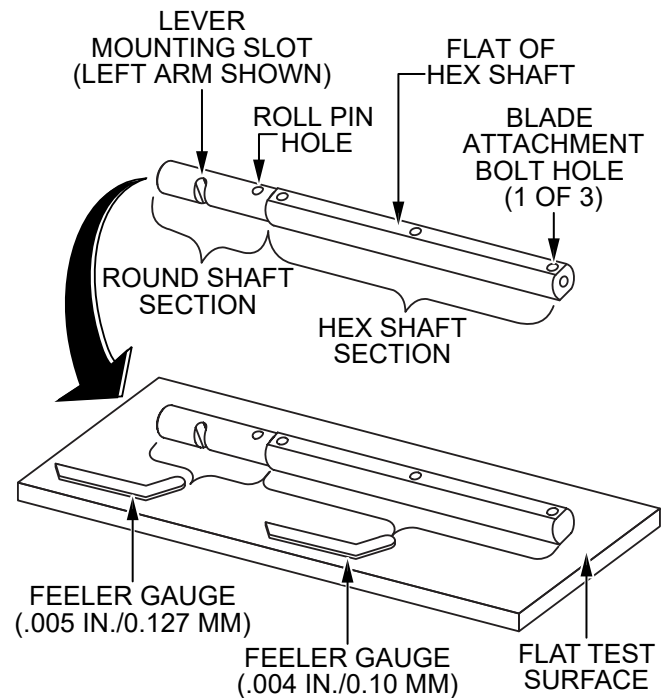

Figure 82. Checking Trowel Arm Straightness
1. Place the trowel arm onto a thick steel plate, granite slab, or any other surface which is flat and true (Figure 82).
2. Check each of the six sides of the trowel arm hex shaft section (Figure 82). A feeler gauge of .004 in. (0.10 mm) should not pass between the flat of the trowel arm and the test surface along its length on the test surface.
3. Check the clearance between the round shaft and the test surface as one of the flat hex sections of the arm rests on the test surface (Figure 82). Rotate the arm to each of the flat hex sections and check the clearance of the round shaft. Use a feeler gauge of .005 in. (0.127 mm). Each section should have the same clearance between the round of the trowel arm shaft and the test surface.